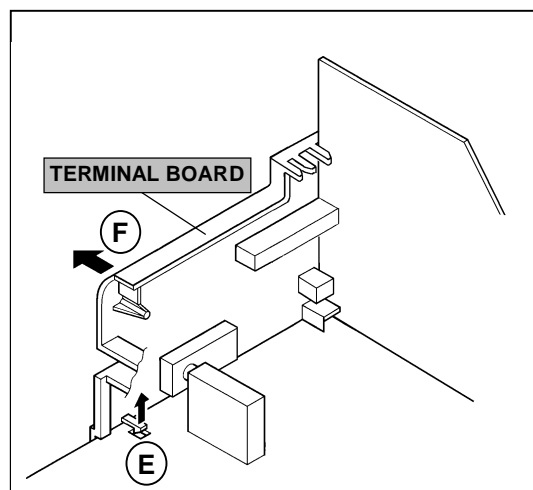

Fig. 1
- 2. After removing the claw marked (E) in the direction of arrow mark as shown in Fig.1.
- 3. When you pull out the TERMINAL BOARD in the direction of arrow marked (F) as shown in Fig.1, it can be removed.